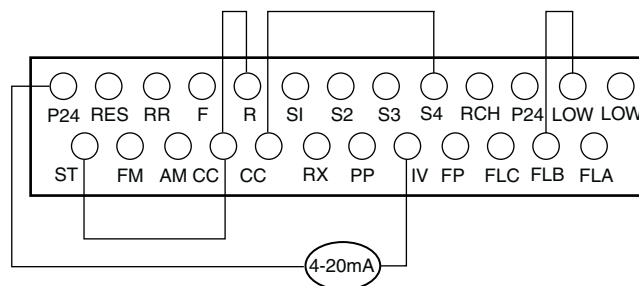

Fig. 54 — Supply Fan Variable Frequency Drive Terminal Block (Size 034-048 Units)
3. Install a jumper across S2-CC (see Fig. 54 and 55 for VFD terminal board connections).
1. Drive enable jumper is installed from terminals CC-ST (factory supplied) (see Fig. 54 and 55).